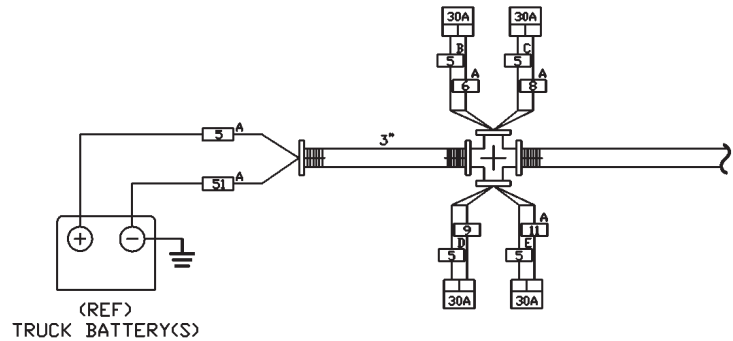

FIGURE 9-23
- Connect the truck interface harness as shown in Figure 9-23.
- Run the battery harness to the truck battery and connect as shown in Figure 9-23.